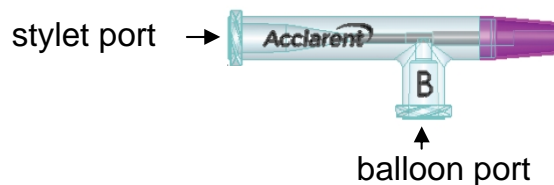

Figure 1. Stylet and balloon port location
2. If using with the Airway Stylet, insert it into the stylet port of the balloon catheter (see Figure 1). The stylet may be locked into place by connecting the male luer on the Airway Stylet with the female luer on the Airway Balloon Catheter.
5. Connect the balloon port (printed with the letter “B”, see Figure 1) to the connecting tube of the Inflation Device.